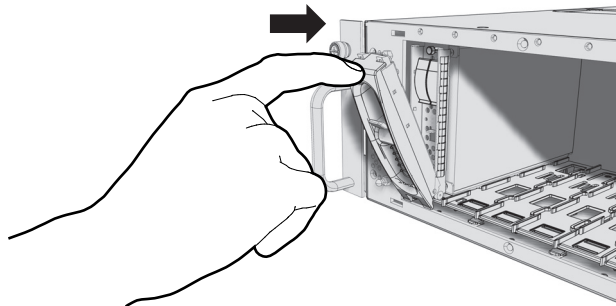

Figure 20. Closing and Locking a Hard Drive Carrier
- c. Close the hard drive latch; make sure the hard drive carrier locks into place (refer to Figure 20).